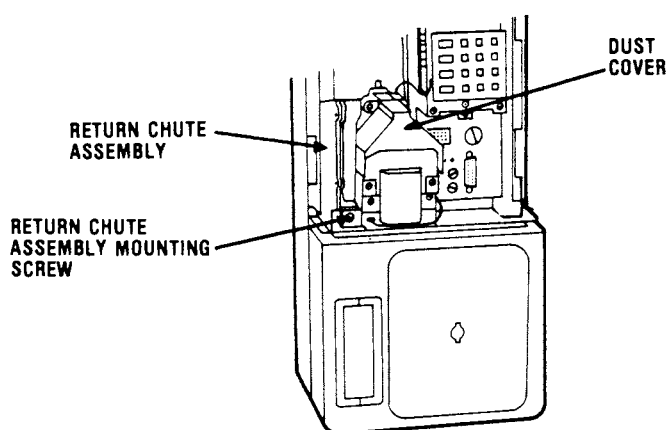

Figure 27 Return Chute
3. Loosen the return chute assembly mounting screw and screw bracket. Refer to Figure 27.